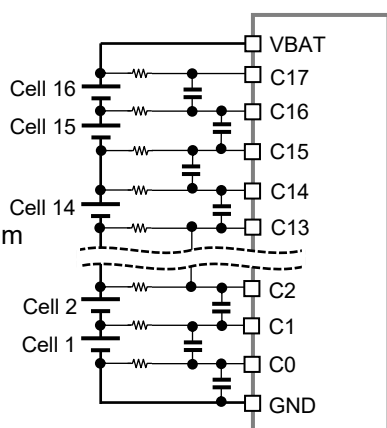

Fig. 4.1.2
- 2) For lower cells count system, the unused battery cells pins (C3~C15) should be connected as shown in Fig 4.1.2 / 4.1.3 / 4.1.4